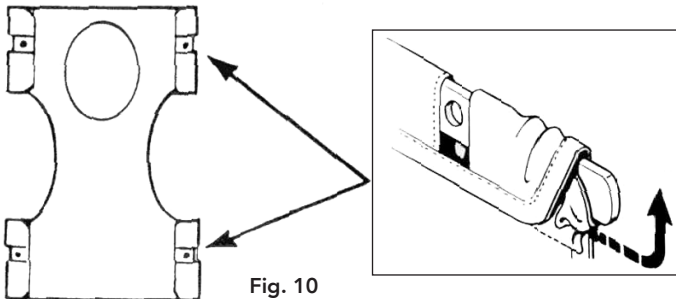

Fig. 10
1. To insert a metal support bar, pull the strap down allowing the bar to pass through the opening in the sling pocket. See Fig. 10.
3. Once the opposite end of the bar is inside the sewn pocket, push the strap over the metal support bar to prevent it from falling out. The hole in the metal bar should be in the center of the pocket opening. This is where the S-hook of the chain or strap will be attached. See Fig. 10